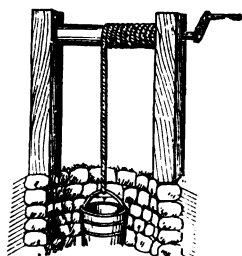

FIG. 21.—Windlass for a well.
**27. Uses of the wheel and axle.** A windlass used in drawing water from a well (Fig. 21) by means of a rope and bucket is an application of the principle of the wheel and axle. In the windlass, a crank takes the place of a wheel, and the length of the crank is the radius of the wheel.